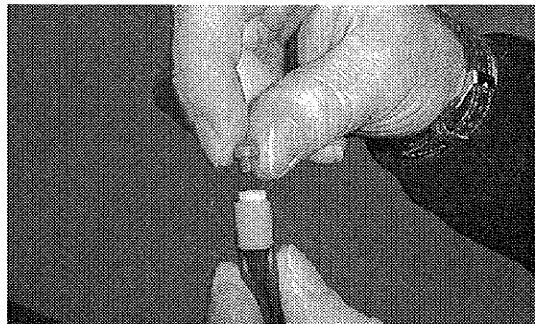

FIG. 2
2. Select the desired metering tip (Tips supplied with machine) and thread tip into blue injection tube on machine (Figure 2). Dispensing rates shown are for Formula 710. Substitute chemicals may have different dispensing rates. An orange tip is factory installed.